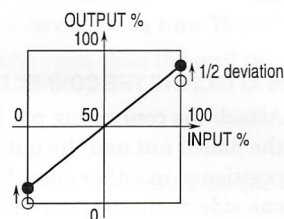

Fig. 8
5) Set the input to 100%. If there is a deviation in output signal, compensate half of the deviation via the Zero adjustment. See Figure 8.